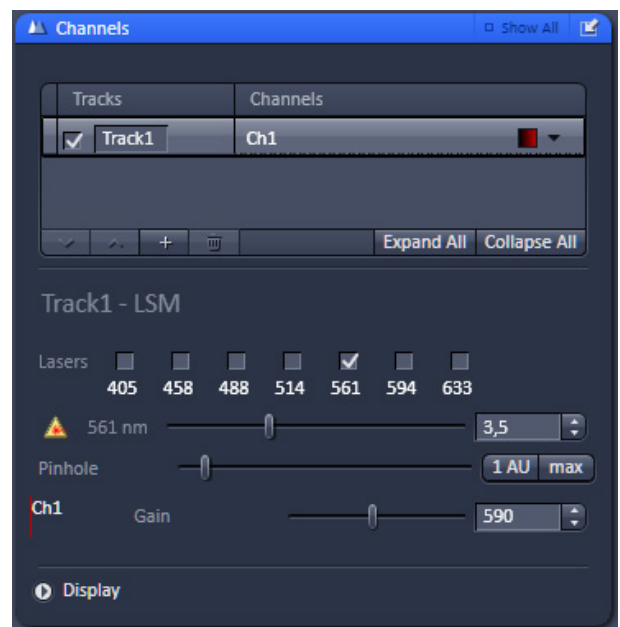

Fig. 253 Channels tool
- Activate the **Channels** tool (Fig. 253).